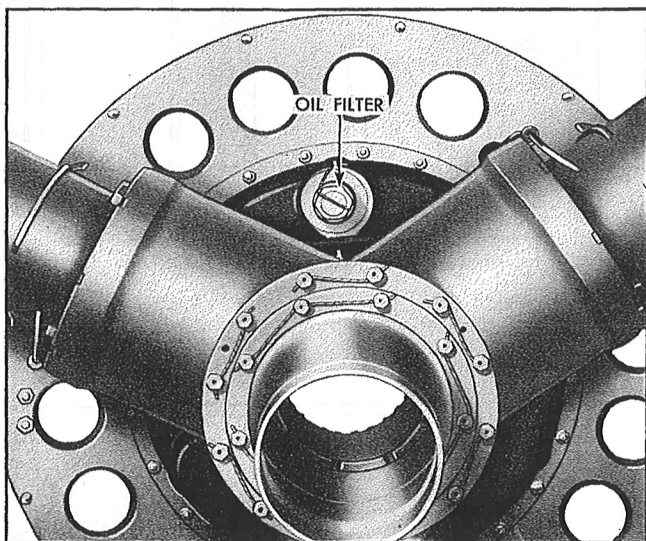

Figure 228A—Oil Filter Assembled to Regulator
*Step 1.*—Cut the safetywire and remove the filter assembly, turning counter-clockwise using a 1" socket wrench. See Figures 228A and 228B.